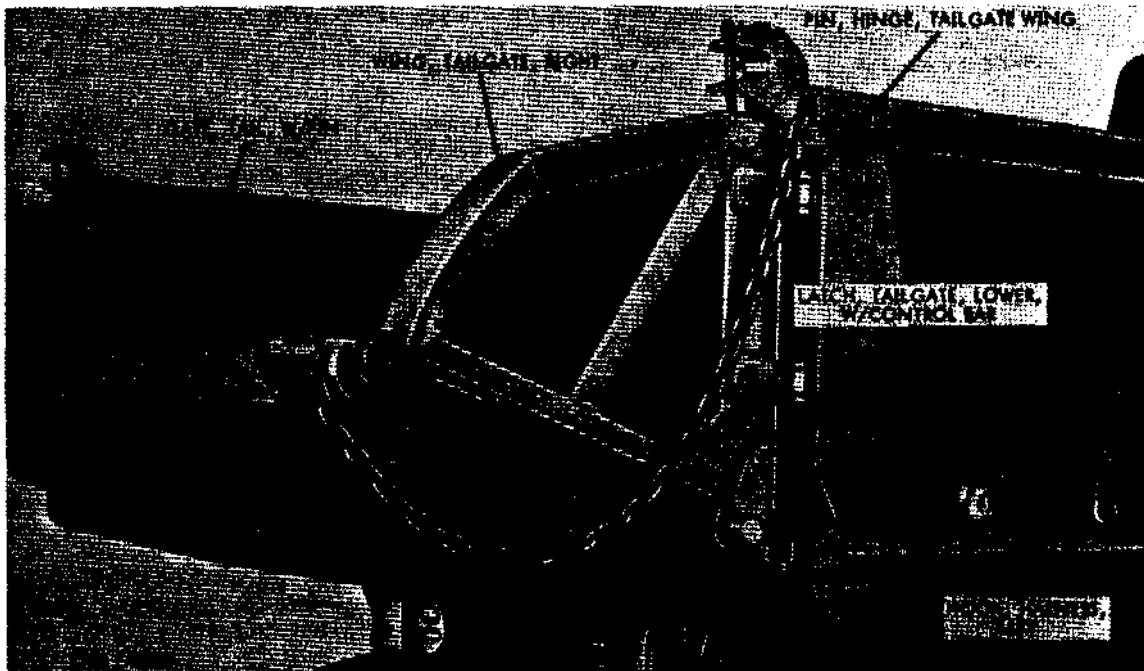

Figure 63. Dump body with tailgate wing assemblies extended
a. Dump Body. The dump body (fig. 10) is of all steel welded construction with a universal-type tailgate which may be opened at either the top or the bottom. Tailgate wing assemblies (fig. 63) are also mounted on the rear of the dump body. These wing assemblies are used to convert the dump body to a rocker-type body with scoop-type rear end. The body is also equipped with a front end mounted cab shield assembly which extends over the cab roof. The cab shield assembly is of steel plate construction with steel reinforcing members.